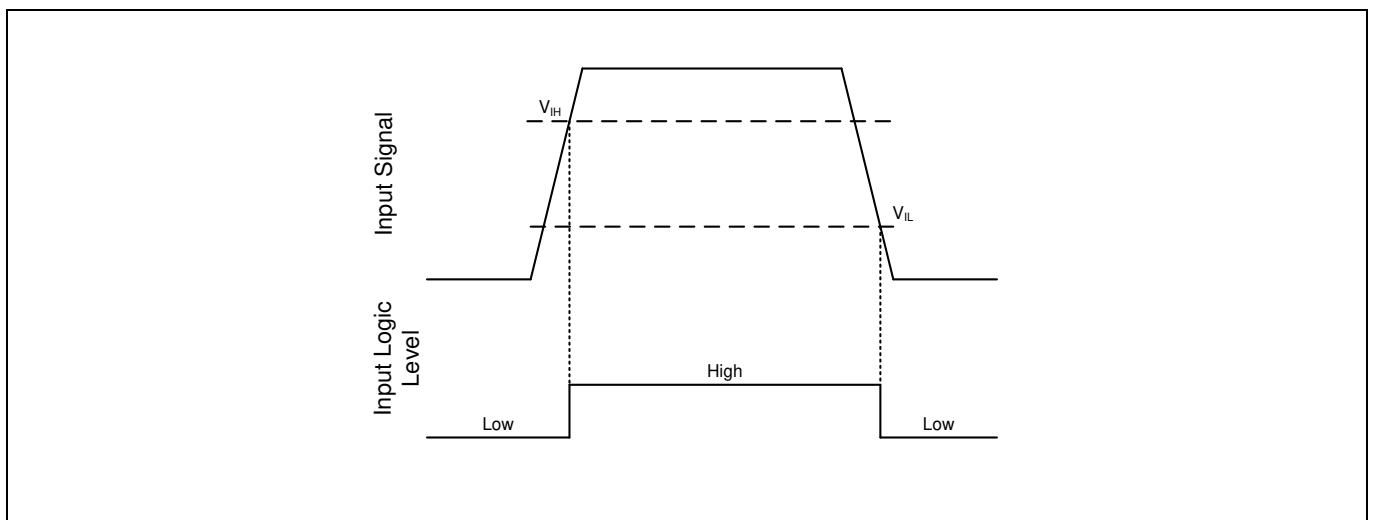

Figure 13 IN & /SD input thresholds
The input pins are based on a TTL and CMOS compatible input-threshold logic that is independent of the  $V_{CC}$  supply voltage. Figure 13 illustrates an input signal to the 2ED2109 (4) S06F (J), its input threshold values, and the logic state of the IC as a result of the input signal. The typical high threshold ( $V_{IH}$ ) of 2.1 V and typical low threshold ( $V_{IL}$ ) of 0.9 V. The input pins are conveniently driven with logic level PWM control signals derived from 3.3 V and 5 V digital power-controller devices. Wider hysteresis (typically 0.9 V) offers enhanced noise immunity compared to traditional TTL logic implementations, where the hysteresis is typically less than 0.5 V. 2ED2109 (4) S06F (J) also features tight control of the input pin threshold voltage levels which eases system design considerations and ensures stable operation across temperature. The 2ED2109 (4) S06F (J) has input pins that are capable of sustaining voltages higher than the bias voltage applied on the  $V_{CC}$  pin of the device.